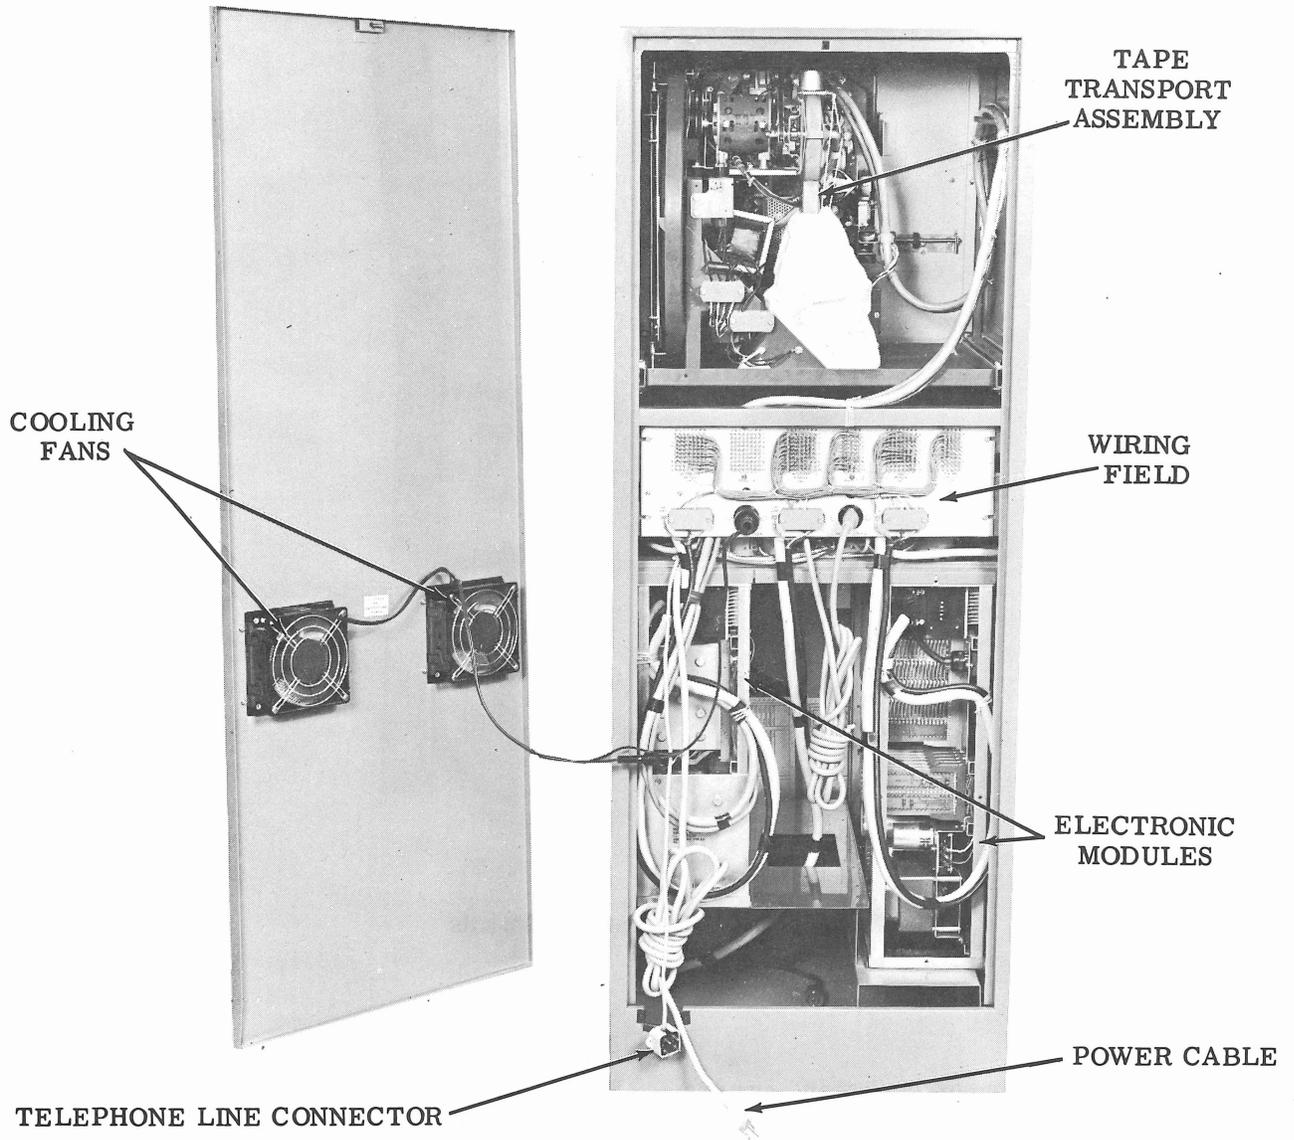

Figure 2 - Tape Receiver 4B, Rear Interior View
2.05 Remove the back panel by loosening screw at top of panel and unplugging power line to the cooling fans (Figures 2 and 4).